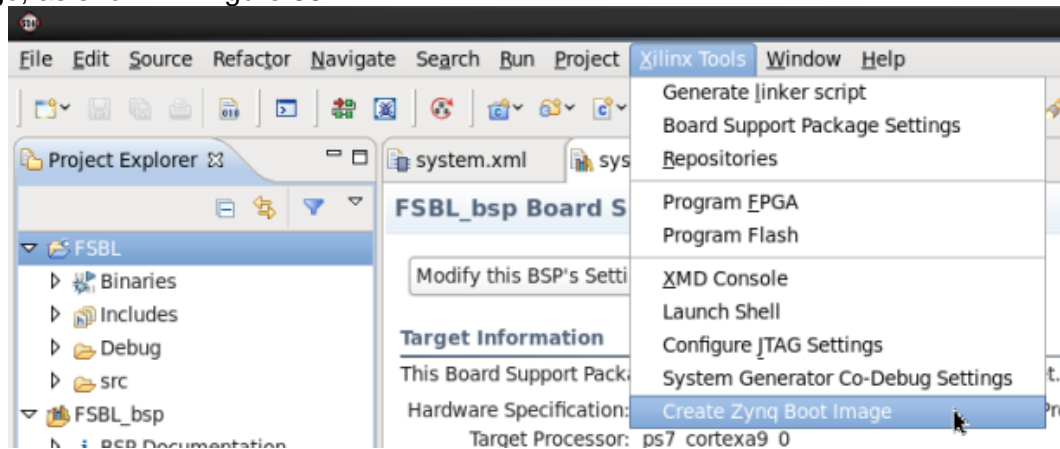

Figure 35. Create Zynq Boot Image
**III-9** Now, we have all the files ready to create `BOOT.BIN`. Click **Xilinx Tools -> Create Zynq Boot Image**, as shown in Figure 35.